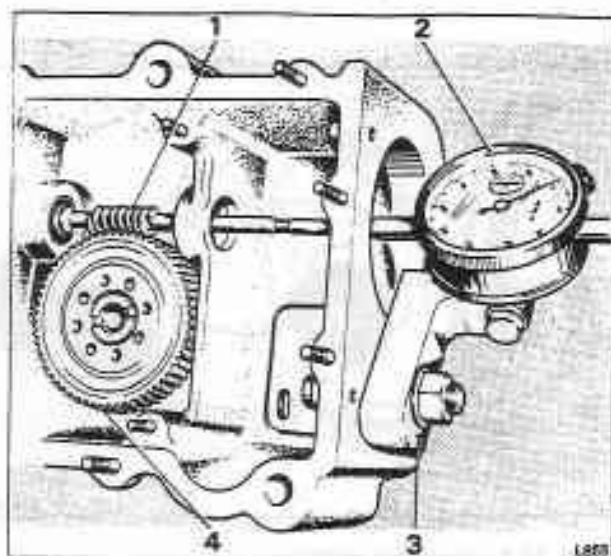

Fig. T6-2 Checking wormshaft end-float
6. Adjust the end-float of the wormshaft to between 0,005 mm and 0,012 mm (0.002 in and 0.005 in) using a suitable washer. Fit the circlip. Check the end-float on the end of the shaft using a dial indicator gauge (see fig. T6-2).